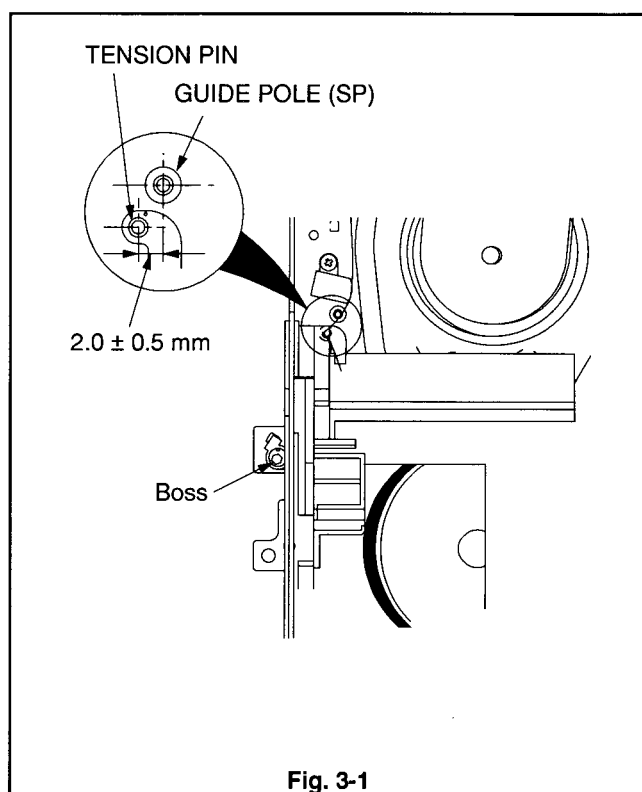

Fig. 3-1
- 2 Make sure that the TENSION PIN is in the position shown in Fig. 3-1.
- 3 If the TENSION PIN is not in the position specified in Fig. 3-1, turn the boss to set the TENSION PIN to be in position.